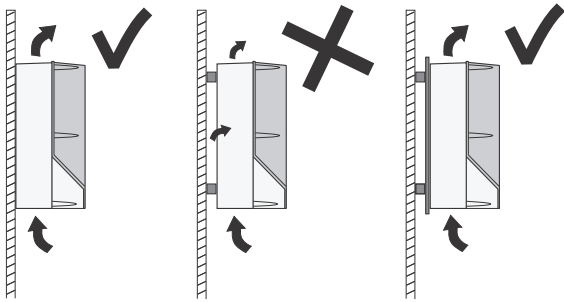

Fig. 29 CU331SP hung directly on the wall or fitted with a back plate
- Hang the CU331SP directly on the wall, or fit it with a back plate. See fig. 29.